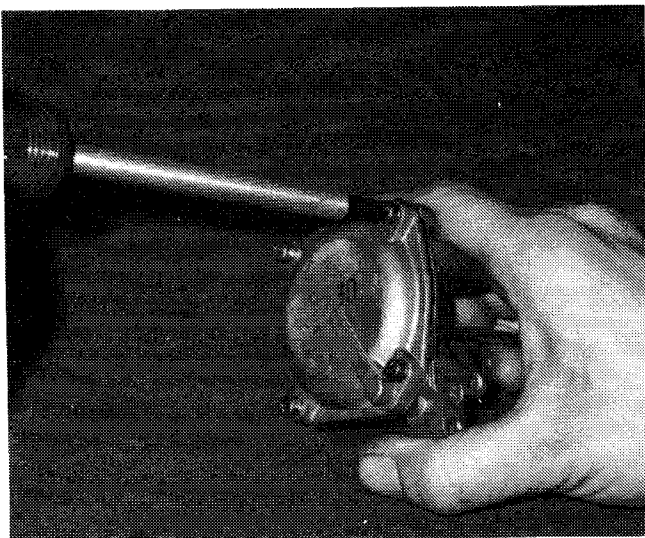

Fig. 9: Remove secondary diaphragm cover screws. Tap top of housing lightly with mallet to ease removal.
3. Remove four screws securing diaphragm cover. Fig. 9.